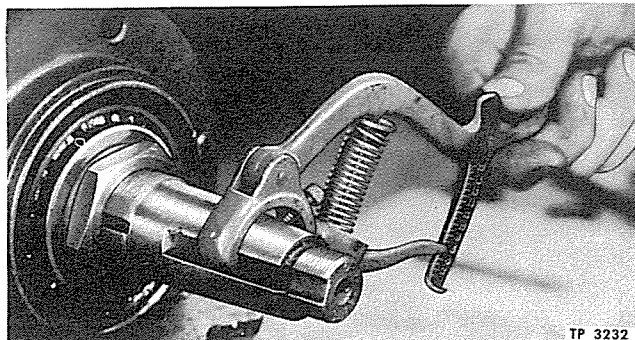

Figure 6—Typical Pinion Bearing Adjustment Test
1. Press bearing cups (47 and 48) into pinion cage (45), if bearing cups were removed during disassembly.
2. Install bearing (31) on drive pinion (49) with widest portion of bearing (31) toward heel of gear teeth (49). Make certain that bearing bottoms solidly against teeth of drive pinion (49).
3. Secure inner end of drive pinion (49) in vise equipped with padded jaws. Position cage (45) over splined end of drive pinion (49); then install bearing (46) in cage (45).
4. Install washer (43) on top of bearing (46) screw adjusting nut (42) on top of washer; then tighten adjusting nut (42) until there is not perceptible end play evident. Test adjustment with torque wrench as shown in figure 6. If torque resistance is less than 6 inch-pounds, tighten adjusting nut (42) - if more than 8 inch-pounds loosen nut. After proper adjustment is secured, install nut lock (42) and lock nut (37), tighten lock nut (37) and check adjustment again to ascertain that tightening lock nut did not change bearing adjustment. Then bend nut lock (36) lip against adjusting nut (43) on one side, and against lock nut (37) on the other side.
5. Carefully insert flange (38) into cover (41) and oil seal (40) assembly; then position cover gasket (54) on top of pinion cage (45). Insert splined end of drive pinion (49) into flange (38) and install nut (39) onto drive pinion (49).
6. Secure flange (38) in vise equipped with padded jaws, tighten nut (39) firmly; then align slots in nut (39) with cotter pin hole and install new cotter pin.
7. Install shim pack (32) which was removed at disassembly, over ends of studs (35). Insert drive pinion and cage assembly into differential carrier (30). Ascertain that marks previously made during disassembly on carrier (30) and cage (45) are in alignment. Align gasket (44) with stud holes in pinion cage (45) and cover (41); then